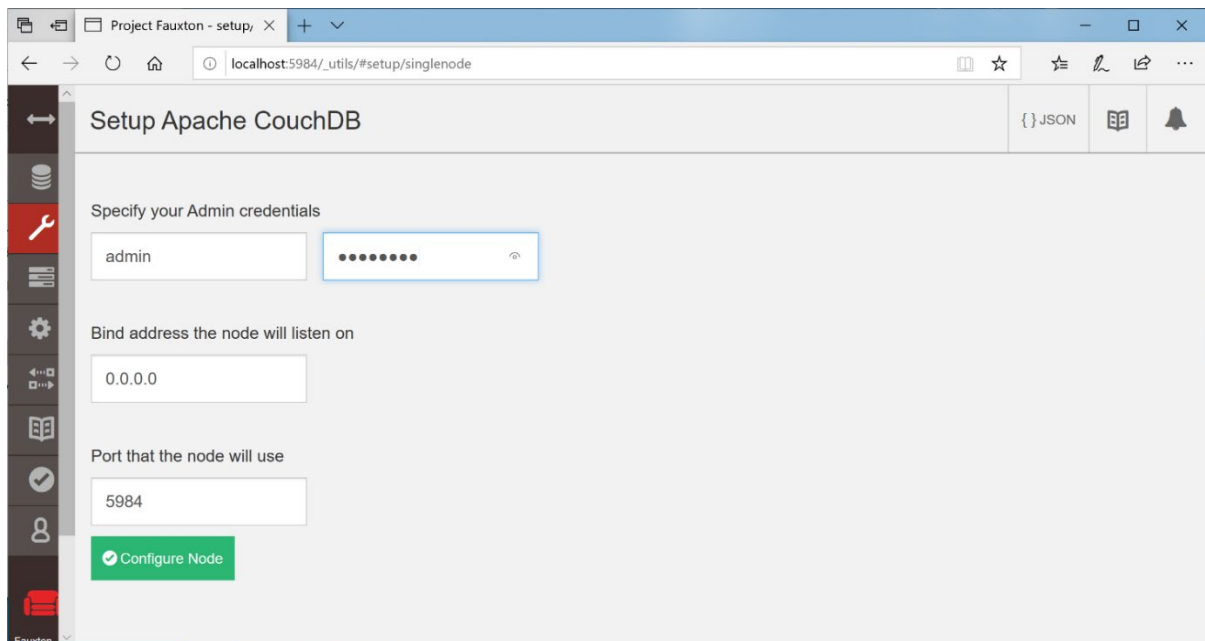

Figure 3-5 Configuring Single Node Continued
- f. Click the Configure a Single Node and enter your user and password, the same as you did when you started the Spectator Couch DB service and keep everything else as default. Then click Configure Node button (see Figure 3-5).